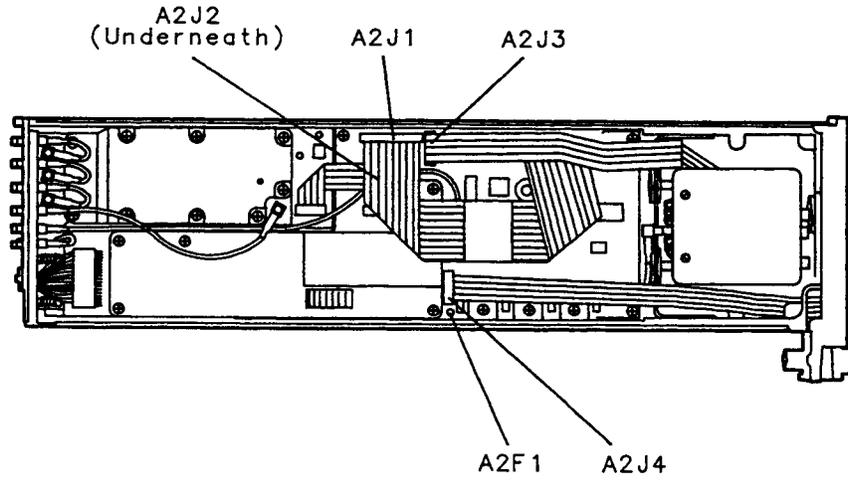

Figure 5-4. A2F1, A2J1, A2J2, A2J3, and A2J4 Locations
3. Replace the fuse on the A2 board assembly if it is open. (See Figure 5-4 for fuse location. Refer to Chapter 7, "Replaceable Parts," for the fuse part number.)
4. Disconnect the cables from A2J1, J3, and J4. If the module is an Option 001, also disconnect the cable from A2J2. (See Figure 5-4 for connector locations.)